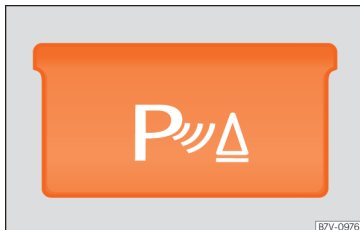

**Fig. 268** Detailed view of the centre console: button to connect or disconnect the park assist.
- Press the **P** button when the ignition is switched on » **Fig. 268**.